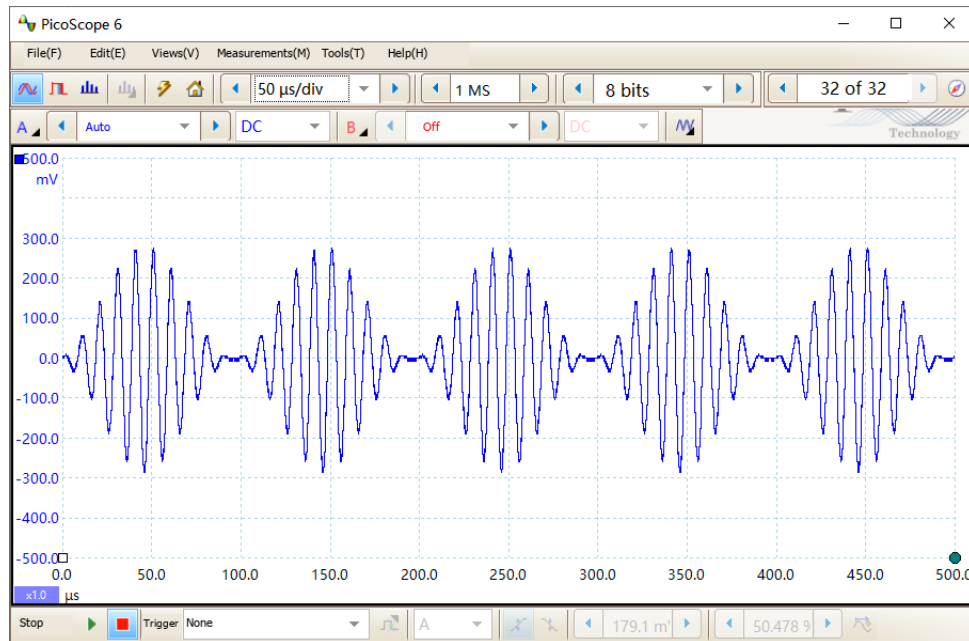

Figure 105. Waveform of the AM Signal
1. Set the function generator to AM modulation mode. Set a 100 kHz, 200 mV_{rms} sine wave as the carrier, and set a sine wave with a frequency of 10 kHz and a modulation depth of 100% as the modulating signal. Note that in the AM modulation mode of the function generator, regardless of the modulation depth setting, the carrier amplitude is reduced by half. For example, when the current setting is 200 mV_{rms}, the actual amplitude is only 100 mV_{rms}. The waveform output from the function generator is shown in Figure 105.